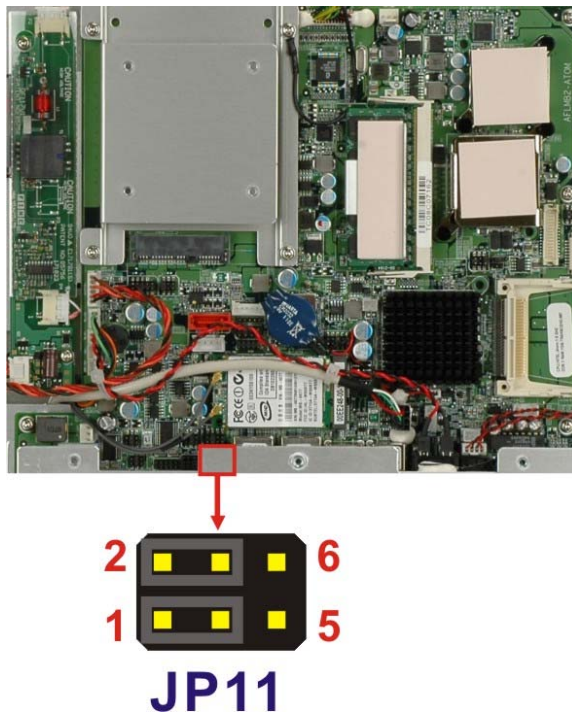

Figure 2-12: COM3 TX Function Select Jumper Pinout Locations
- Jumper Location:** See Figure 2-12
The COM3 TX Function Select jumper location is shown in Figure 2-12 below.